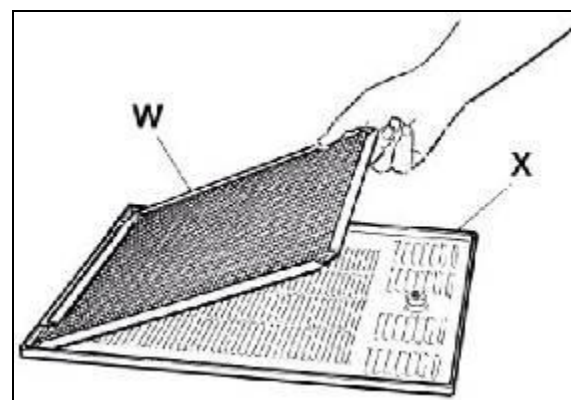

Fig. 29
- Remove the panel and the filter and clean it properly with water or vacuum cleaner (see figure 29).